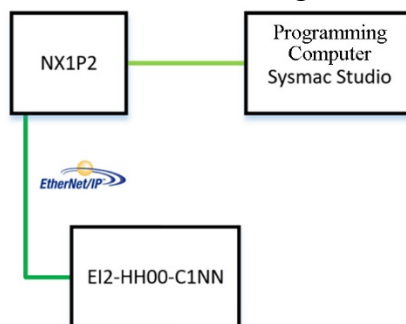

Fig.5-7-27 Communication Link Diagram
1. See Fig. 5-7-27 for the communication link diagram.